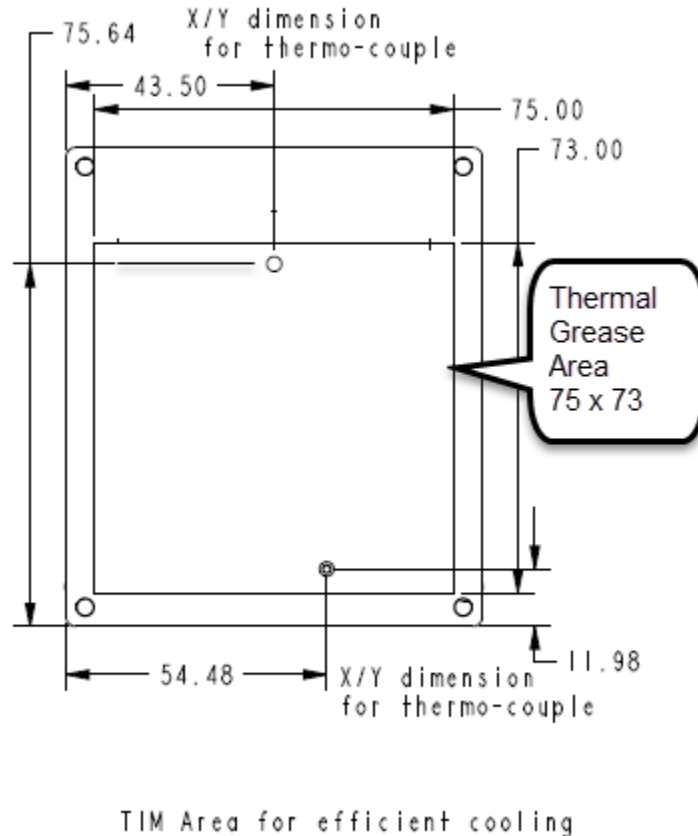
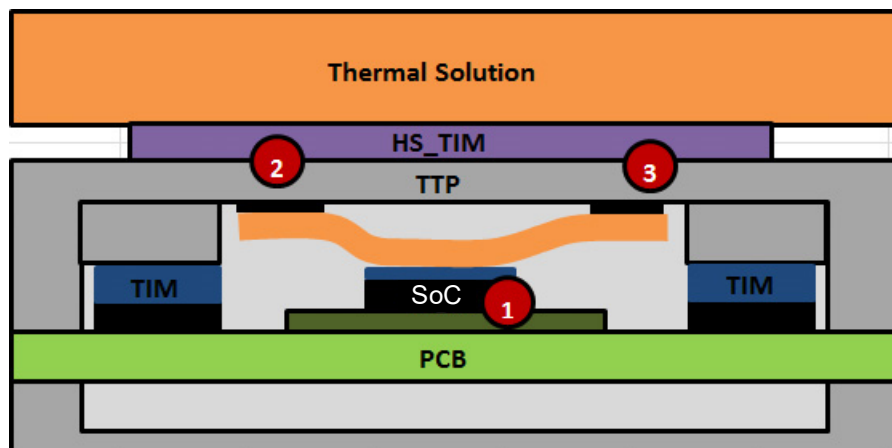

Figure 3-2. Location of TTP Thermocouple
Figure 3-3. Thermal Stack Up Schematic
¹The temperature of the TTP must always be kept within this 80 °C limit to maintain the specified performance and reliability. The measurement locations is provided in Figure 3-2
The 75 x 73 mm area, as shown in Figure 3-2, is the key contact area for efficient cooling performance. Full contact with the entire top surface of the TTP is suggested for maximum cooling.
The TTP has a maximum operating temperature specified in Table 2-1. If the Jetson AGX Xavier temperature is kept below this limit, then all other critical components on the PCB will be within their temperature limits as well. The TTP temperature is to be measured during qualification testing at the location indicated by a cross (+) in Figure 3-2
In the Z-direction, the cold plate thermocouples should be located on the surface of the TTP as shown in Figure 3-2, indicated by Location 2 and Location 3. During thermal qualification, these are the only temperatures that need to be monitored with a thermocouple. The Xavier SoC temperature (Location 1) is monitored via software. Note the following for Figure 3-3:
- Maximum TTP Temperature - To ensure that the maximum Xavier SoC operating temperature is less than the value specified in Table 2-1 (shown as Location 1 in Figure 3-3), and the maximum TTP temperature must not exceed the value specified in Table 2-1 (shown as Location 2 in Figure 3-3).
- b) If the TIM was not pre-applied to the heat sink, apply the TIM to the center of the module as shown in Figure 3-2.